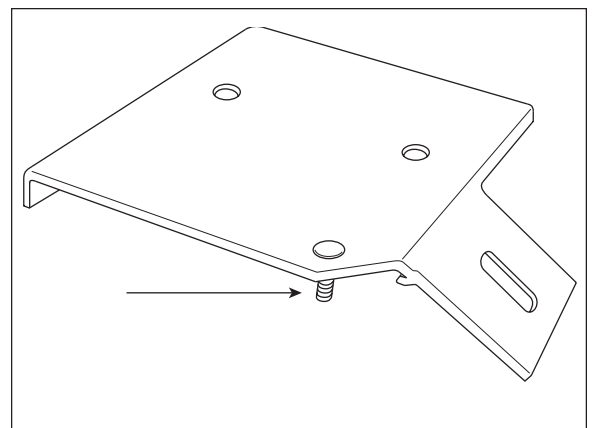

Figure 7
DRIVERS SIDE ONLY - Insert 5/16 clinch bolt (K) into the small hole of the lower bracket before attaching the lower bracket to the air spring. Supporting the lower bracket will ease installation of the clinch bolt. Use a hammer to drive the bolt into the hole in the lower bracket (Fig. 7).
Note: Be sure to install the assembly with the clinch bolt on the driver side. Refer to diagram (Fig. 7) on page 4.